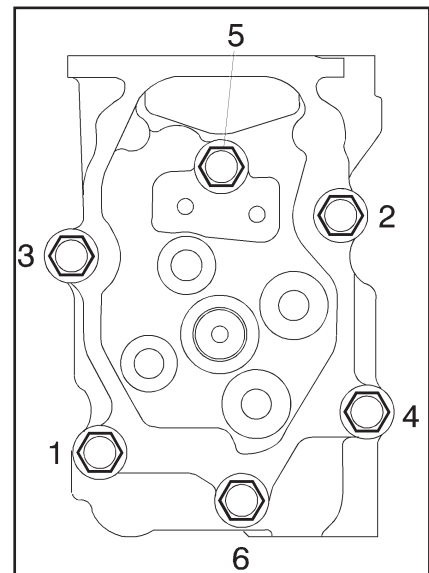

Figure 72
6. Tighten the bolts in the order given in "Figure 72" and in three stages + 90° as follows: